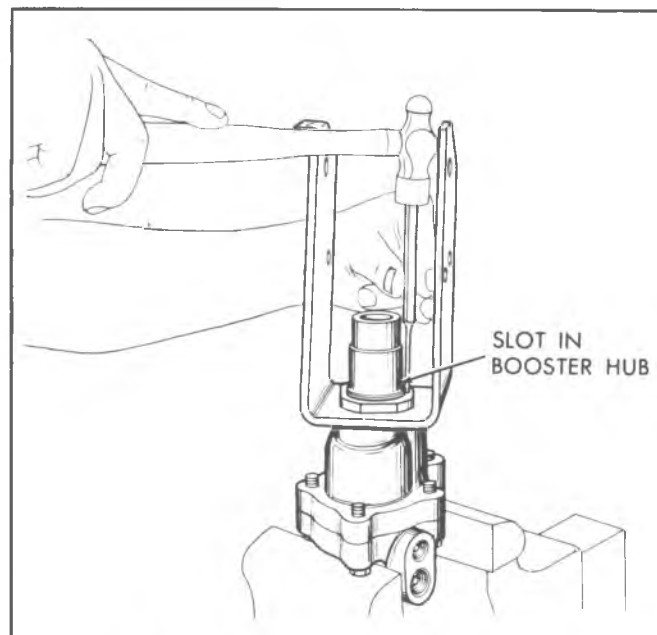

Fig. 5-16E—Staking Mounting Bracket Nut
22. Use a hammer and a small punch inserted into the staking groove of the nut, at the slot in the booster hub (fig. 5-16E), to stake the nut in place. Be sure that the outer thread of the nut is upset.